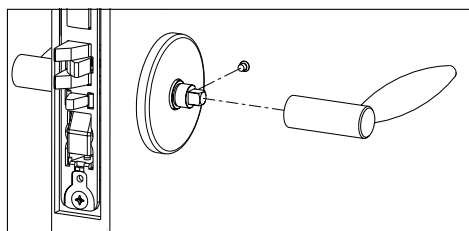

Figure 5-5U
5. Install inside lever with set screw. (Figure 5-5U)